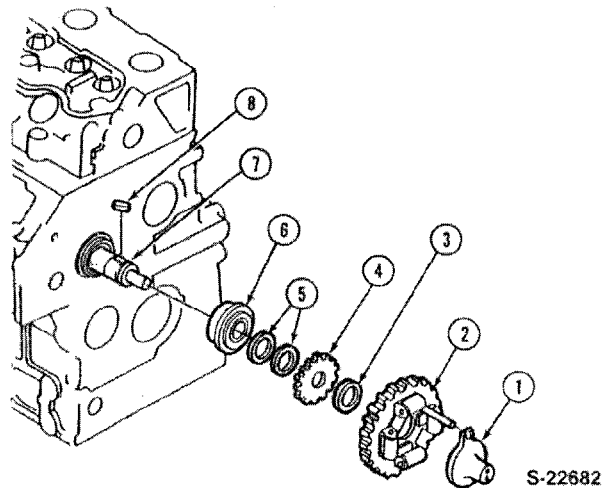

Figure 48
3. Position the two spacers, tachometer drive gear, camshaft gear, key, flyweight assembly, pins and slider on the camshaft, Figure 48.